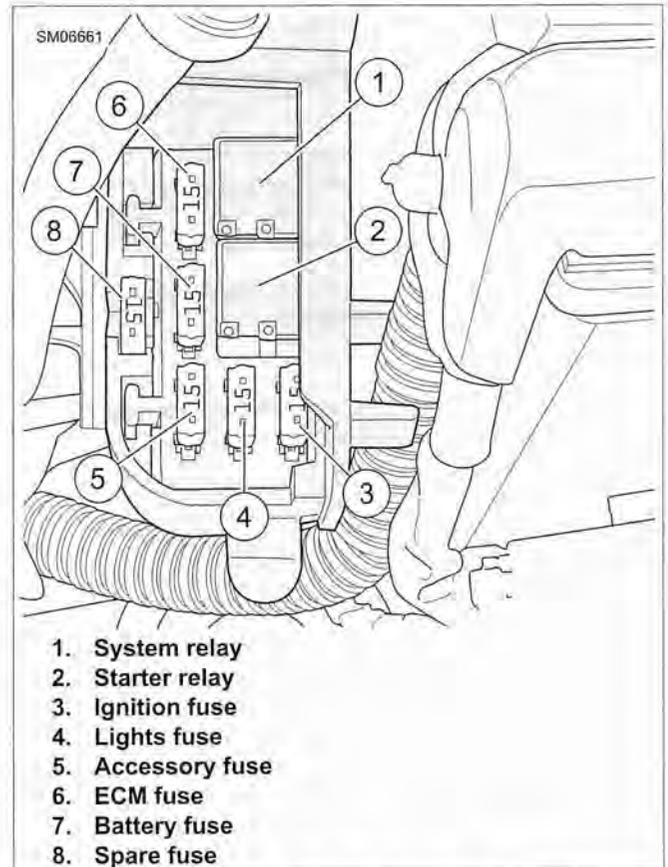

Figure 6-10. Relay/Fuse Block (typical)
See Figure 6-10. The electrical system relay/fuse block is located in front of the battery under the left side cover. The relays and fuses are mounted in the relay/fuse block. All fuses are rated at 15 amperes.
2. See Figure 6-10. Pull suspect fuse (3-7) from slots in relay/fuse block and inspect for blown condition or other damage.
2. See Figure 6-10. To unplug old relay (1 or 2), grasp body of relay and with a gentle rocking motion, pull straight out from relay/fuse block.